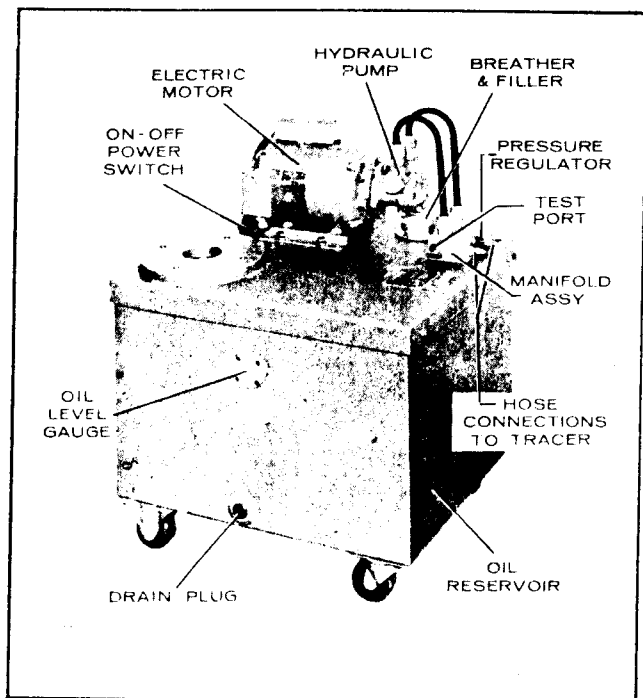

Figure 1-4. Typical Hydraulic Power Unit
d. The hydraulic power unit (fig. 1-4) is a single pressure self-contained unit including an electric motor and hydraulic pump. The electric motor is a totally enclosed type. The hydraulic pump is a Tuthill gear type. The hydraulic reservoir has a 15 gallon capacity. The interior and exterior surfaces of the reservoir are coated with hard-baked enamel for durability and ease of cleaning. The output pressure is adjusted at the factory for 160 psi. The unit should seldom be adjusted higher than 160 psi for operation of the Mark "O" and "O-A" Series Lathe Tracer Attachments. The pump capacity is 1.5 gallons per minute.
d. The hydraulic power unit (fig. 1-4) is a self-contained unit similar to the unit described in paragraph 1-4d.